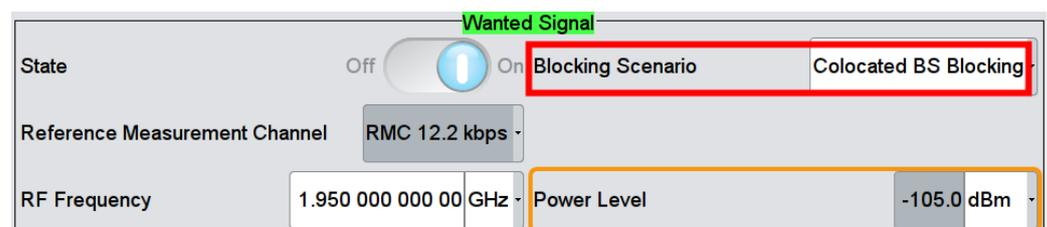

Fig. 3-39: Set blocking scenario as Colocated BS Blocking. Set Frequency
- Select **Co-located BS blocking** as **Blocking Scenario** in the "Wanted Signal" menu. (Fig. 3-39)
- Set **RF frequency** of the wanted signal. (Fig. 3-39)
- Power level** for the wanted signal is set automatically based on the power class and blocking scenario. (Fig. 3-39)